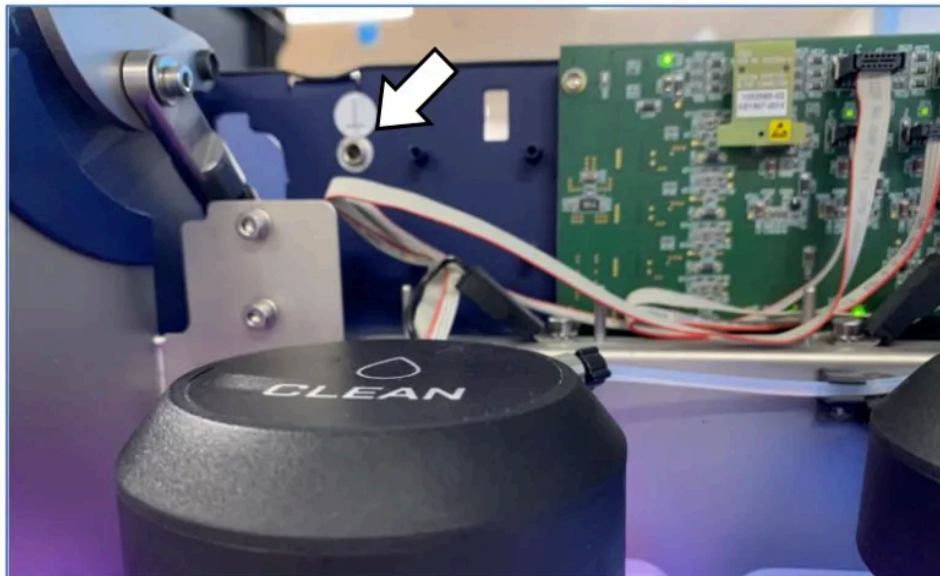

Fig. 2 Functional Earth connection point-on front side
- Behind the cover plate in front of the Driver Control PCB (Fig. 2)